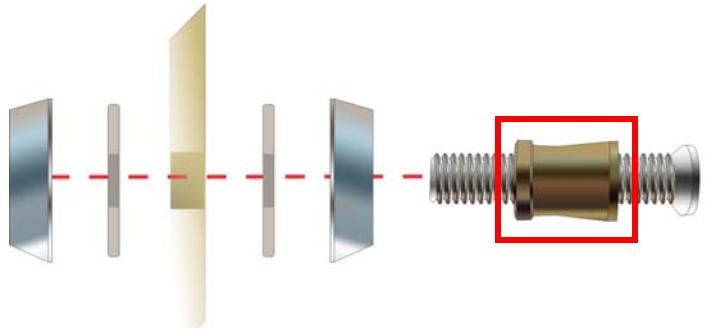

Figure 18. Installing Hardware
38. Arrange the hardware for handle installation as shown in Figure 18. Note the orientation of the tapered shafts that slide onto the bolts. The taper will narrow towards the glass door.